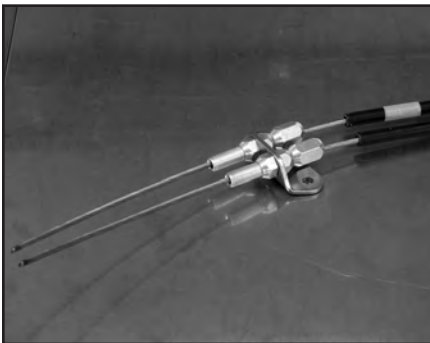
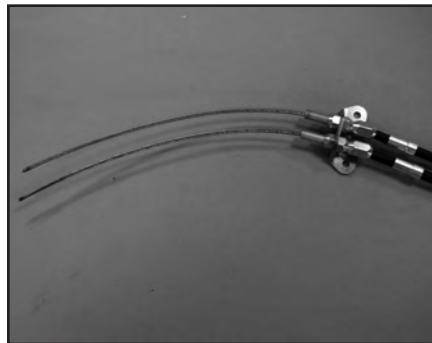

Figure 8
Figure 9
- Slide the Housing End Adjuster over the two inner cables, until it bottoms out against the cable covers, figure 8. Remove tape from cable covers and slide ferrules into the Housing End Adjuster, figure 9 and 10. **NOTE:** Put a little red Loctite® 271 on ferrule before inserting to help hold it in position.